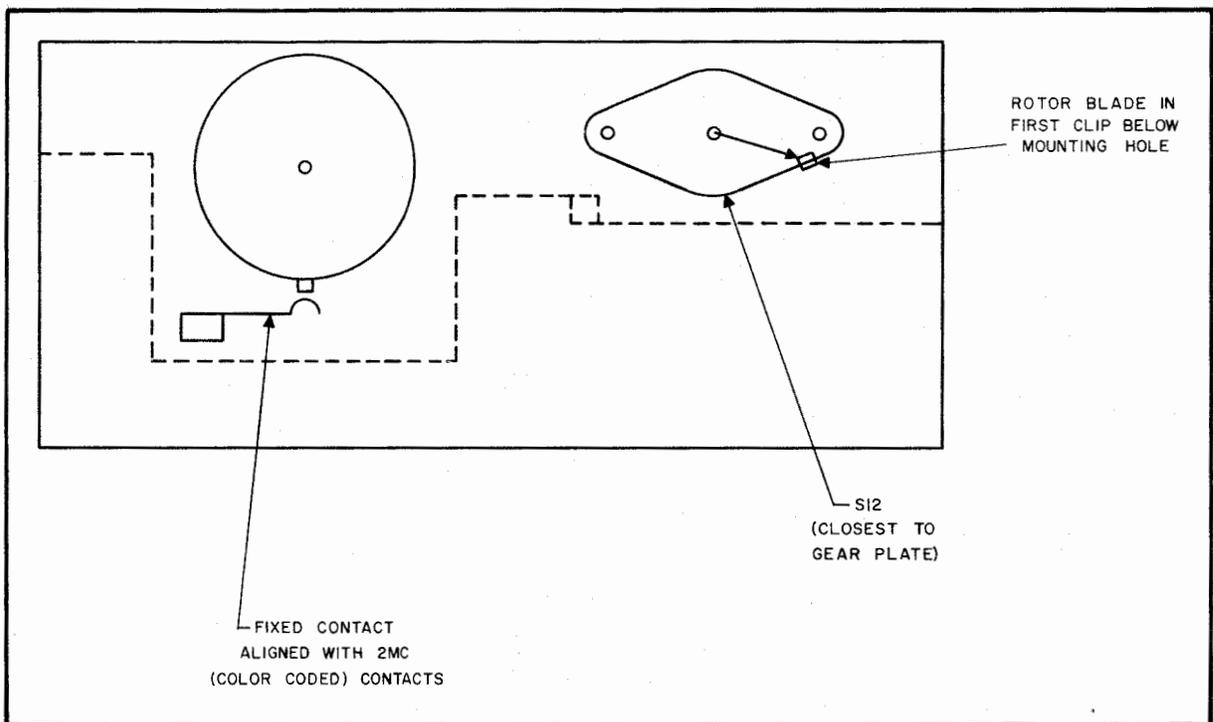

Figure 6-33. R-F Translator Module A12, Turret Alignment
6-216. Align r-f translator module A12 turret by performing the following procedure (see figure 6-33).
b. Adjust band-switch shaft until clip is positioned as shown in figure 6-33. Tighten clamp screw.